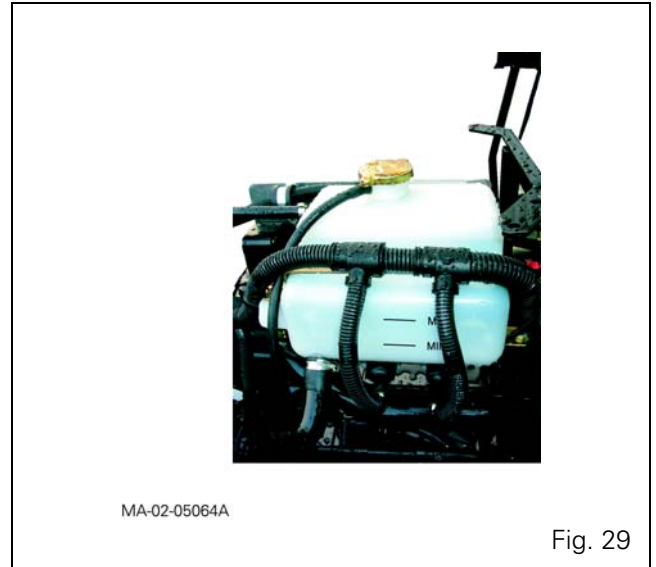

Fig. 29
- of coolant, to the maximum level marked on the expansion tank (Fig. 29).